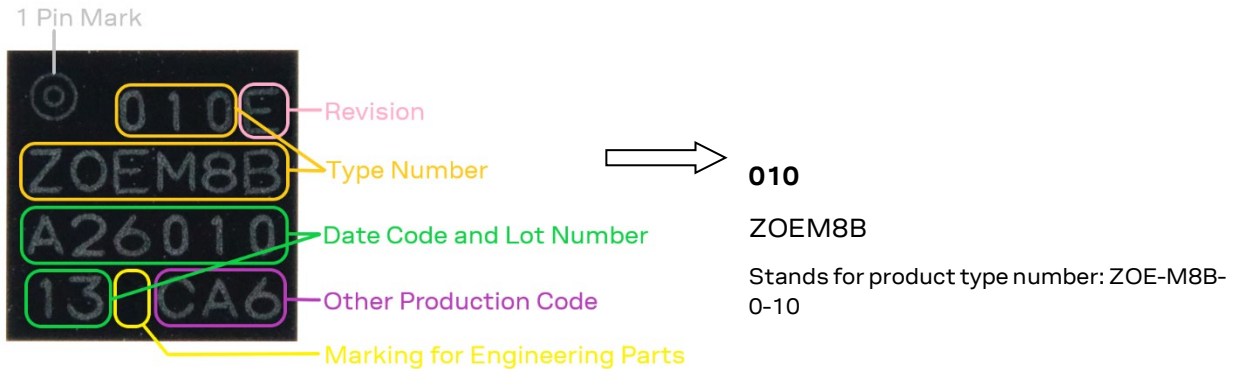

Figure 6: Description of ZOE-M8B product label
The labeling of u-blox M8 GNSS SiP products includes important product information. The location of the ZOE-M8B product type number is shown in Figure 6.
-  The pin 1 marking shown in Figure 6 has changed. The change is effective from production date code and lot number **C0201XXX** onward.